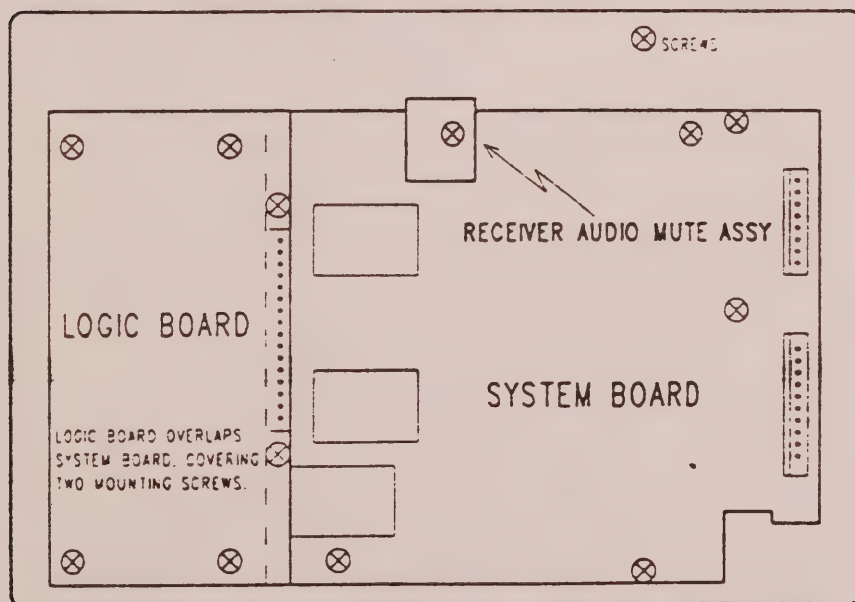

Figure 3-1. VEU RF Deck Board Location
2. Remove the four screws holding the logic board to the chassis and remove the logic board from the radio deck. (See Figure 3-1 below for location of logic board.) Discard the logic board.